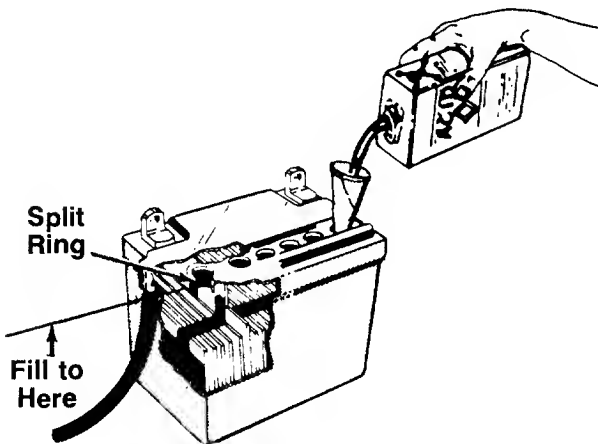

FIGURE 2.
- ← 6. Fill each battery cell slowly and carefully to the split ring at the bottom of the well. See figure 2. Use caution as the acid level will rise rapidly after the bottom of the cell is filled. **DO NOT OVERFILL.**